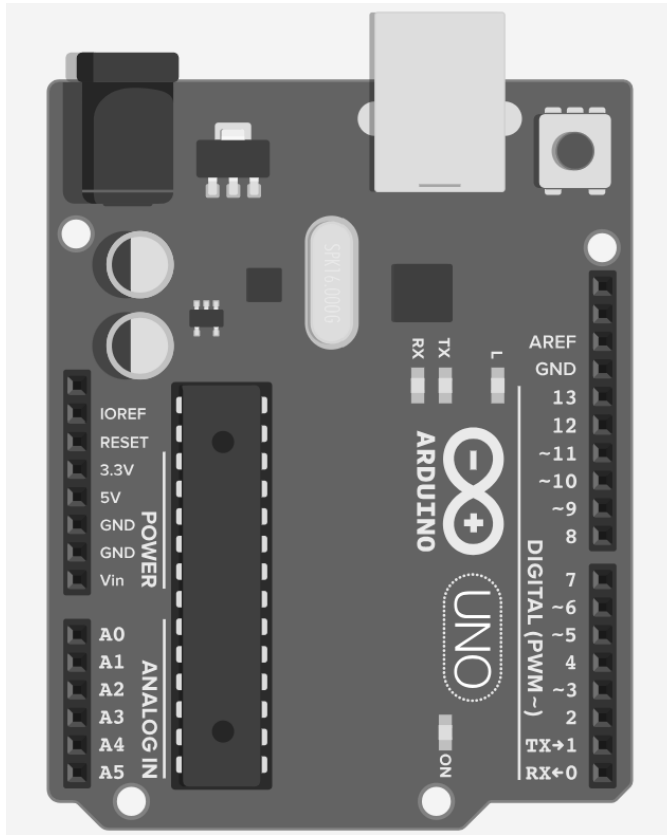

Figure 23: Microcontroller for connecting components.
- c) If Michelle were to use the microcontroller shown in Figure 23, which pin is a good option to connect the following to: